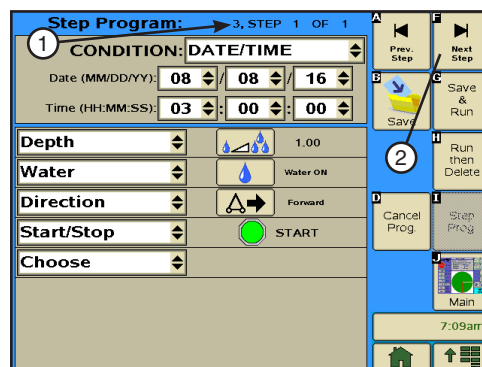

Figure 158-1 1. Step Program Identifier
5. Program the date and time condition for this step, do the following. Refer to Figure 158-1.